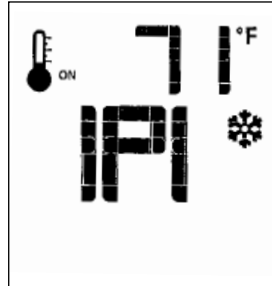
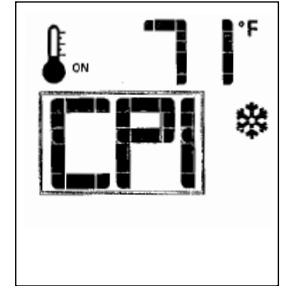

Figure 66. IPI is the default position.
Figure 67. CPI ON.
- With the transmitter in the OFF position, press the transmitter Mode key - IPI is the default mode. Fig. 66. Press the Up arrow to index to the CPI icon and activate the Continuous Pilot Ignition mode. Fig. 67. Pressing the Down Arrow Key will return to Intermittent Pilot Ignition. A single “beep” will confirm reception of the command.